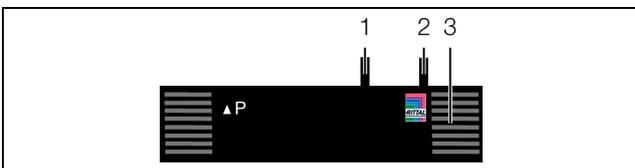

Fig. 7: Front of the differential pressure sensor
- Connect the air hose for the reference measurement to the appropriate connection (fig. 7, item 2).
- Connect the air hose for the comparison measurement to the appropriate connection (fig. 7, item 1).